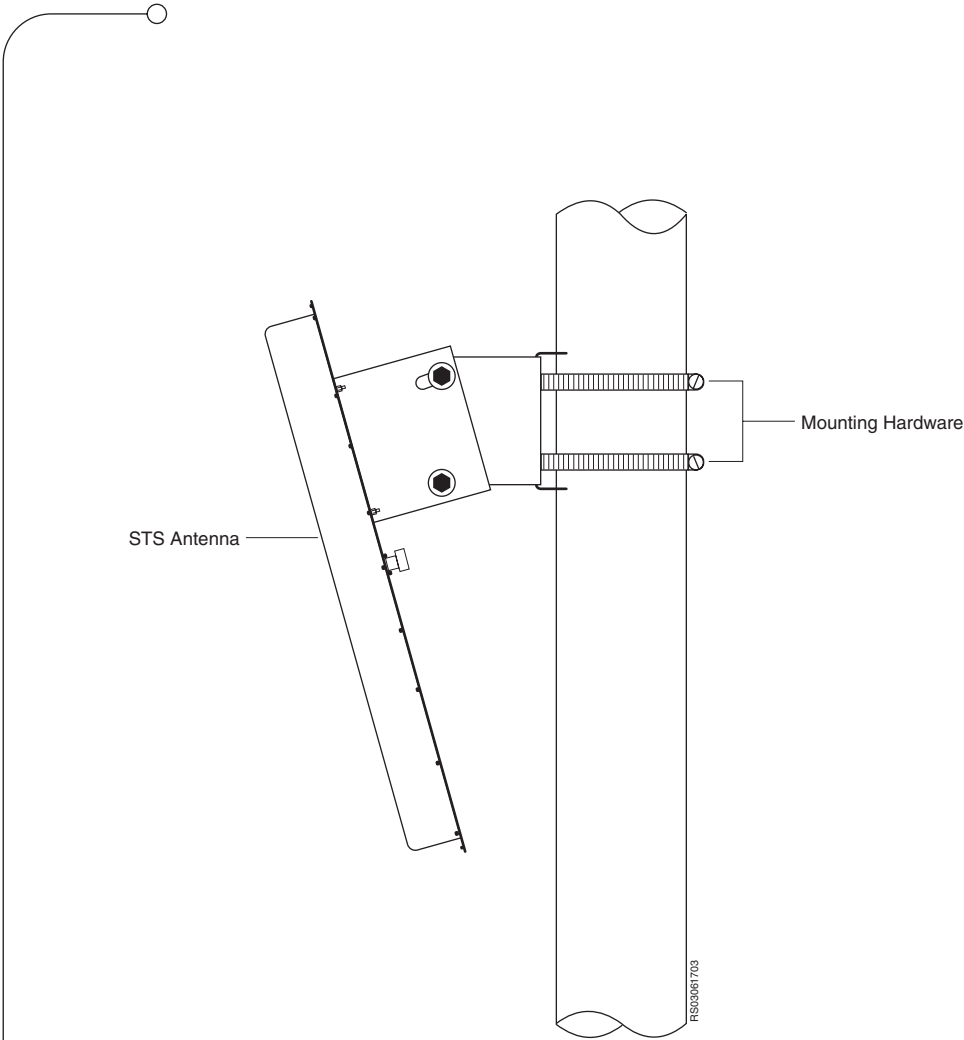

Figure 3.2 Mounting the STS Antenna
- Secure the antenna to the pole using the mounting hardware provided, as shown in Figure 3.2 on page 25.